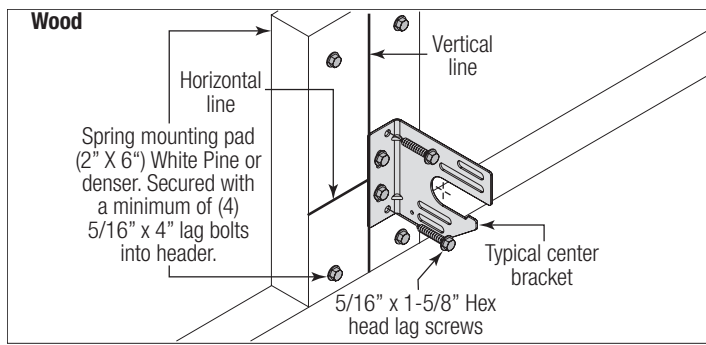
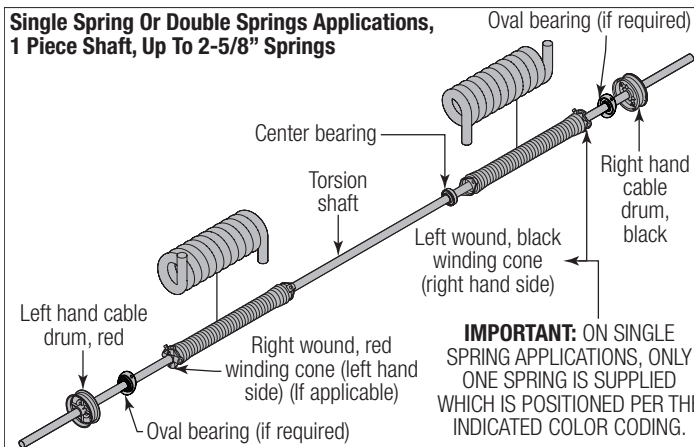

Figure 47
Figure 54
**NOTE:** If your door came with (4) springs or more springs, each of the outer springs mounting surface will need to be a minimum of 3" wide.
**See Figure 47 through Figure 54 for the following steps.**
See Figure 54 through Figure 59 for the following steps.